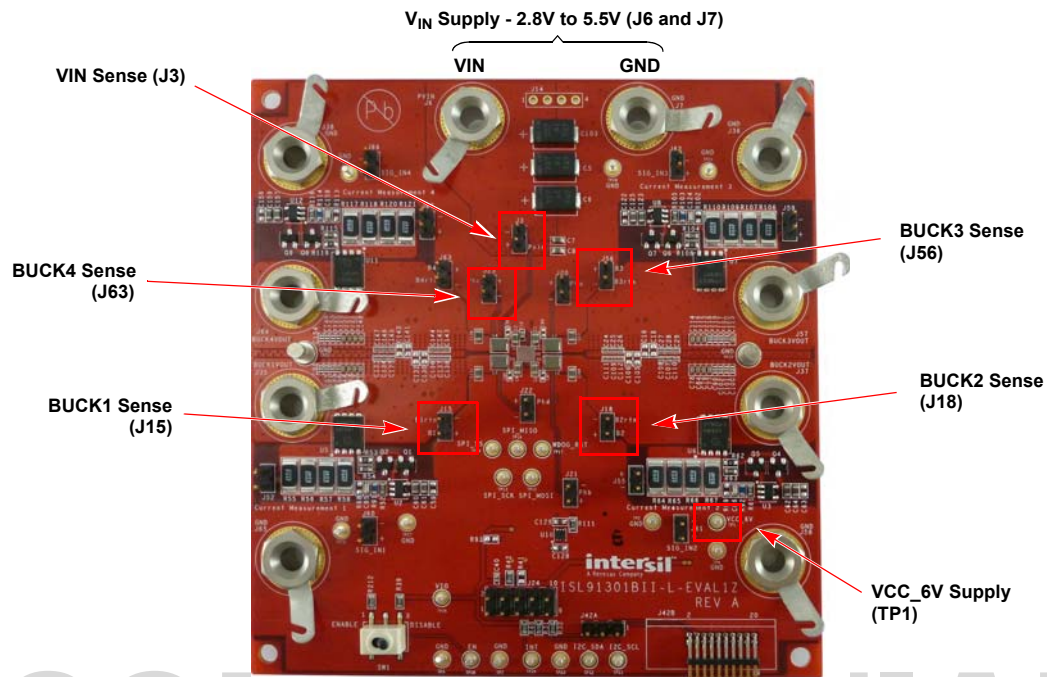

Figure 11. ISL91301BII-L/H-EV1Z Efficiency Measurement Connections
- (1) Connect a power supply at J6 (VIN supply), with the voltage set between 2.5V and 5.5V (ISL91301BII-L-EV1Z) or a voltage between 2.8V and 5.5V (ISL91301BII-H-EV1Z). The current limit should be set high enough to support the maximum load current with additional head room. If the power supply supports remote sense lines, use a Kelvin connection on J3. Otherwise, connect a multimeter at J3.
- (2) Apply 6V to TP1 (VCC\_6V) to initiate the startup sequence and all four outputs will turn on. To get an accurate single channel measurement, disable the other three outputs using the GUI.
- (3) Turn on the electronic load at VOUTx. The connection should be made at J35 (VOUT1), J37 (VOUT2), J57 (VOUT3), or J64 (VOUT4). Make sure the load current does not exceed 3A per phase (ISL91301BII-L-EV1Z) or 5A per phase (ISL91301BII-H-EV1Z), and the correct wire size is used when attaching the electronic load.
- (4) Measure the output voltage with a multimeter. The voltage should regulate within datasheet specification limits.
- (5) To determine efficiency, measure input and output voltages at the Kelvin sense test points (S+ and S-), which are located at the J3 (VIN SENSE) and J15 (BUCK1 SENSE), J18 (BUCK2 SENSE), J56 (BUCK3 SENSE), or J63 (BUCK4 SENSE) headers. Measure the input and output currents from the VIN power supply and the electronic load. Calculate efficiency based on these measurements. For detailed setup information, refer to Figure 11 on page 13.